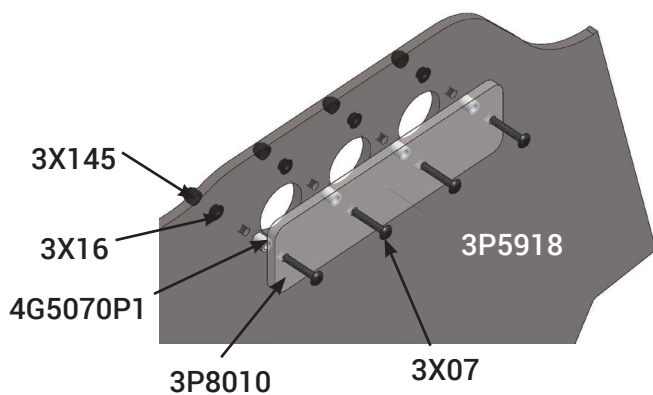

Fig. 14
- F. Attach vent plate (3P8010) to the divider (3P5918) as shown in Fig. 14 using the supplied spacers, bolts, and nuts.